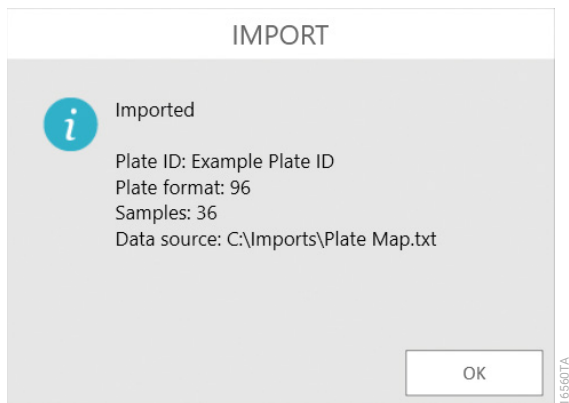

Figure 44. 'Import' screen. The 'Import' screen displays a summary of information from the import of a plate map file.
7. Once all data fields are identified, tap the **Accept** button to perform the import of data from the file. An 'Import' screen is shown summarizing the results of the plate import including the Plate ID, plate format, number of samples present in the file, and the data source for the import file (Figure 44). Tap **OK** to dismiss the 'Import' screen.